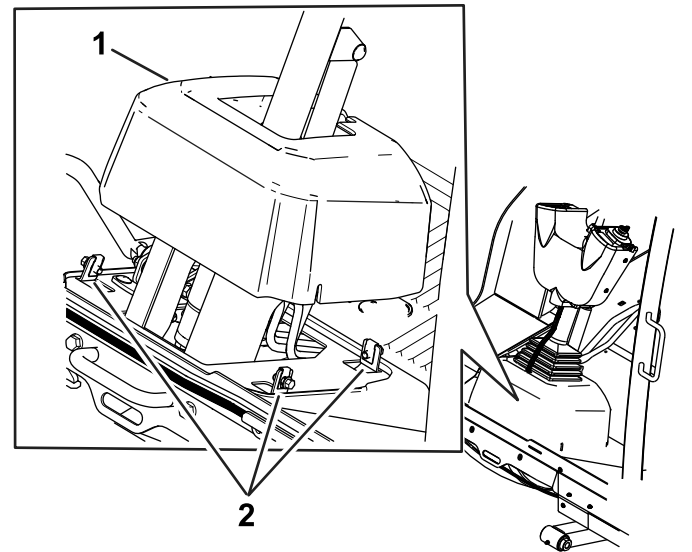

Figure 2
2. Loosen the bolts around the steering-column base and raise the base up (Figure 2).